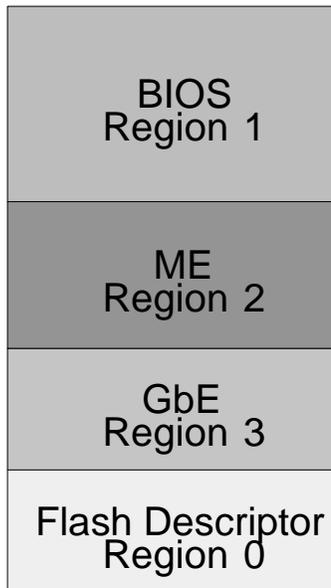

Figure 1. LAN NVM Regions
The LAN NVM shares space on an SPI Flash device (or devices) along with the BIOS, Manageability Firmware, and a Flash Descriptor Region. It is programmed through the ICH8. This combined image is shown in Figure 1. The Flash Descriptor Region is used to define vendor specific information and the location, allocated space, and read and write permissions for each region. The Manageability (ME) Region contains the code and configuration data for ME functions such as Intel® Active Management Technology, ASF, and Advanced Fan Speed Control. The system BIOS is contained in the BIOS Region. The ME Region and BIOS Region are beyond the scope of this document and a more detailed explanation of these areas can be found in the *Intel® I/O Controller Hub 8 (ICH8) Family External Design Specification (ICH8 EDS)*. This document describes the LAN image contained in the Gigabit Ethernet (GbE) region. Fast Ethernet (**82562V**) images are also described.